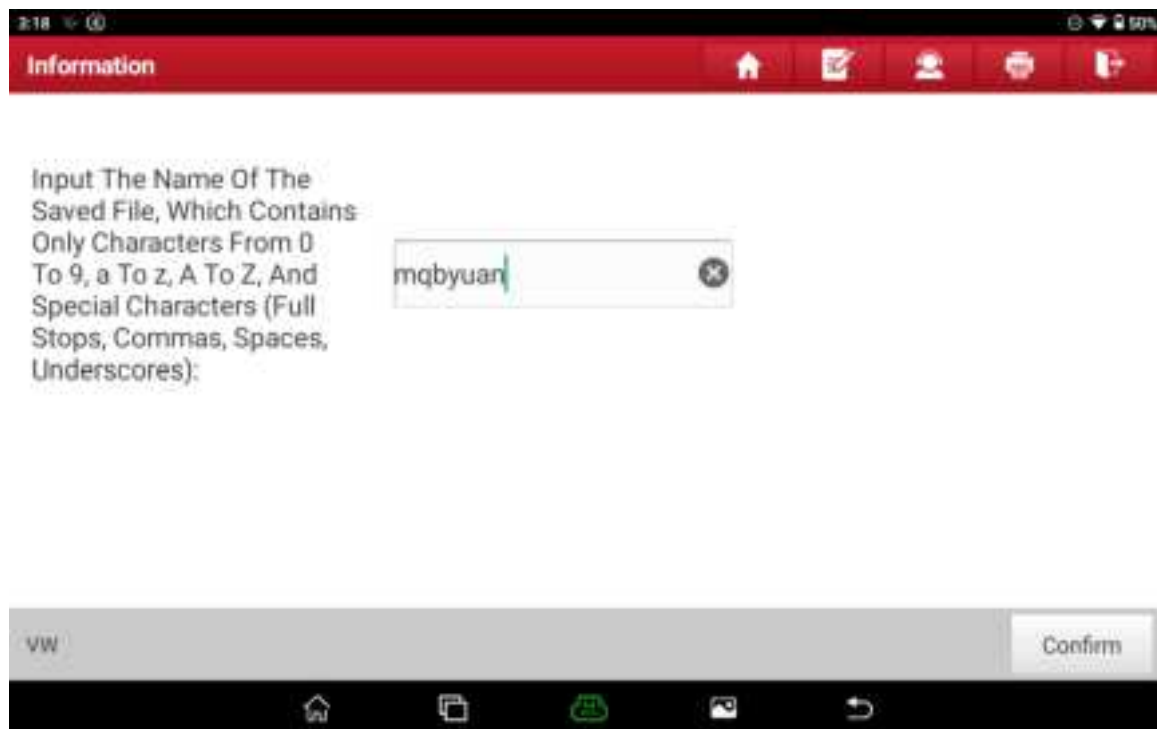

Figure 17
16. After the data is read successfully, enter the name of the saved file and select OK, as shown in Figure 17 (the Chinese name is not supported for the time being).